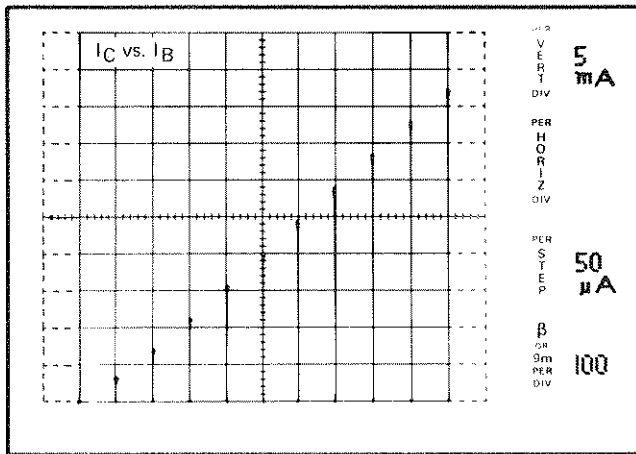

Fig. 2-15.  $I_C$  vs.  $I_B$ ,  $I_b$  @  $50 \mu A$  per division.
56. Set the VERTICAL switch to 5 mA and the HORIZONTAL switch to STEP GEN. Note the display of collector current vs. base-current, one step per horizontal division (see Fig. 2-15).